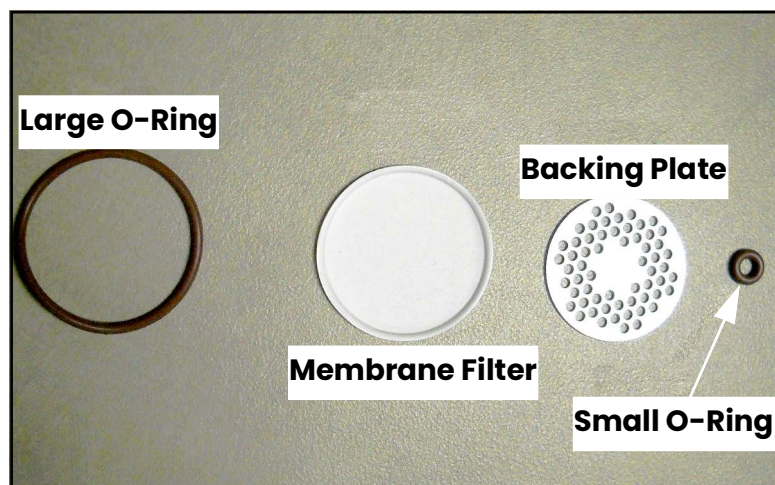

Figure 104: O-Rings, Membrane Filter and Backing Plate Removed
7. Using a tissue, clean the filter components (see *Figure 104* below).